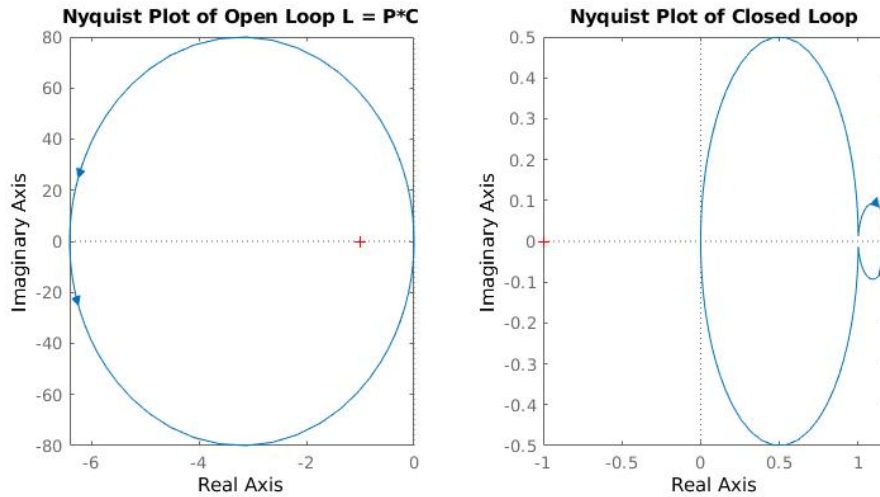

Figure 4: Nyquist plots of open and closed loop system.
- (b) The Nyquist plots of the open loop transfer function $L(s) = P(s)C(s)$ and the closed loop transfer function $4000 \frac{s+1}{s^2+4000s+3375}$ are shown in Figure 4